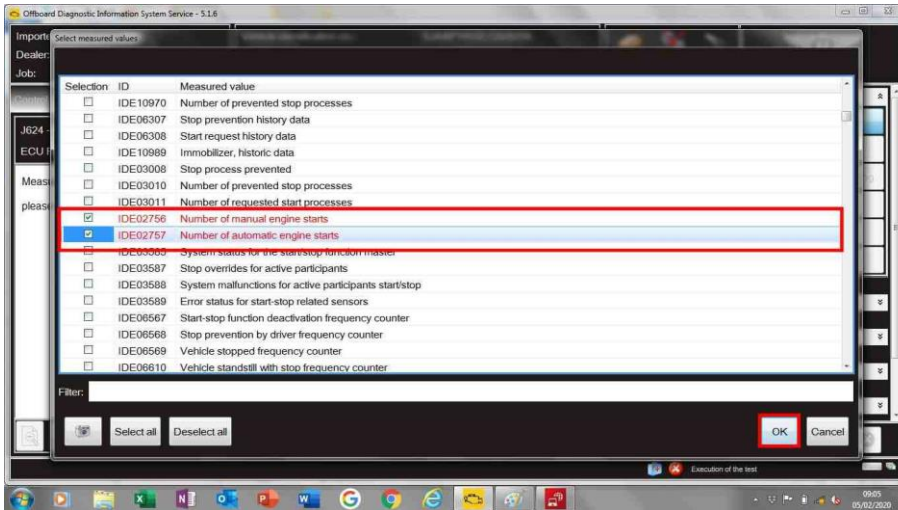

Figure 4
- Select **“IDE02756”** and **“IDE02757”** and then **“OK”** – Figure 4.